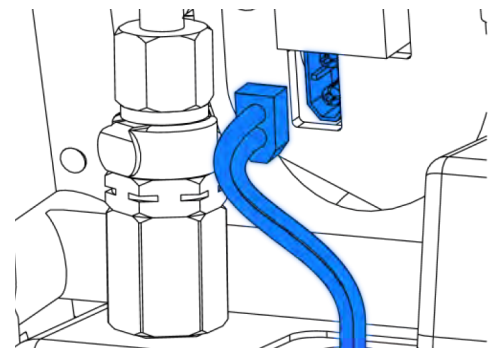

FIGURE 1.1
2. Disconnect the main power cable (Figure 1.1).